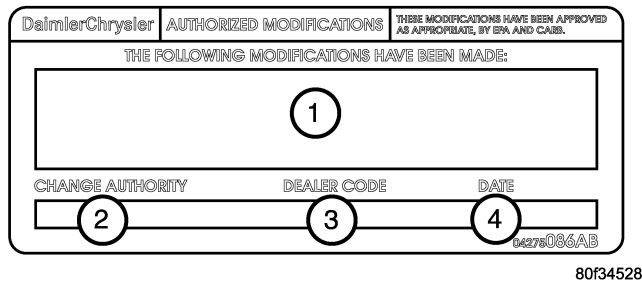

Fig. 1 AUTHORIZED MODIFICATION LABEL
8. Type the necessary information on the “Authorized Modification Label” p/n 04275086AB and attach near the VECI label (Fig. 1).